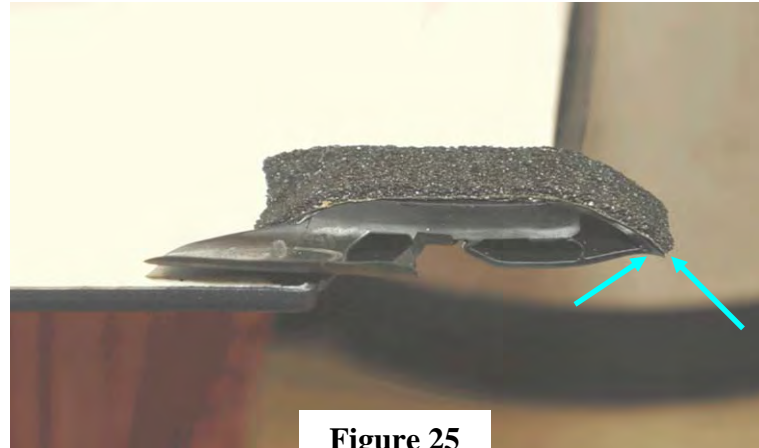

Figure 25
- Install **BLACK** 30 X 75 mm Foam from kit (68026937AB) along trim lines of flame tip (Figure 25)